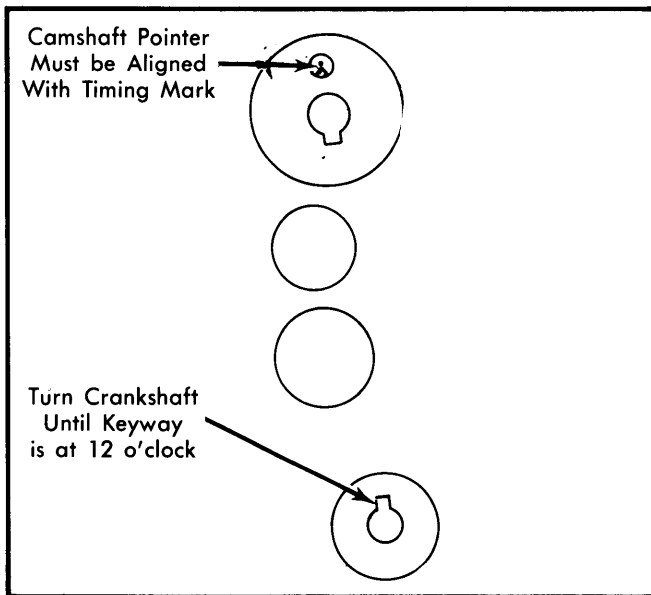

Fig. 10 Position of Camshaft and Crankshaft for Valve Timing
5) When valve timing is correct, crankshaft keyway should point to 12 o'clock position and camshaft to 6 o'clock position. See Fig. 10.